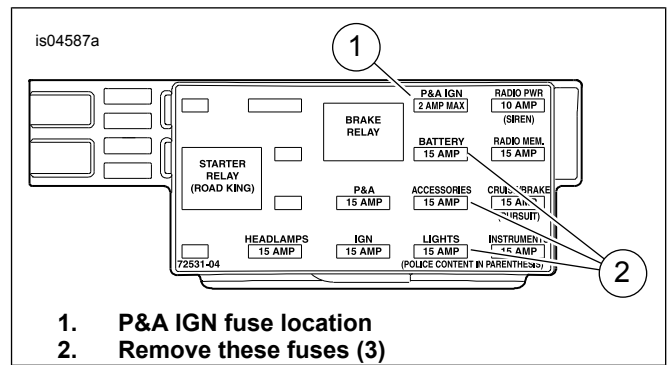

Figure 13. P&A IGN Fuse Cavity (2004-2007 Touring Models)
3. **2004-2007 models:** See Figure 13. Locate the fuse cavity marked "P&A IGN", "2A MAX" (1). Remove the three fuses (2) currently installed in this row, noting their location.